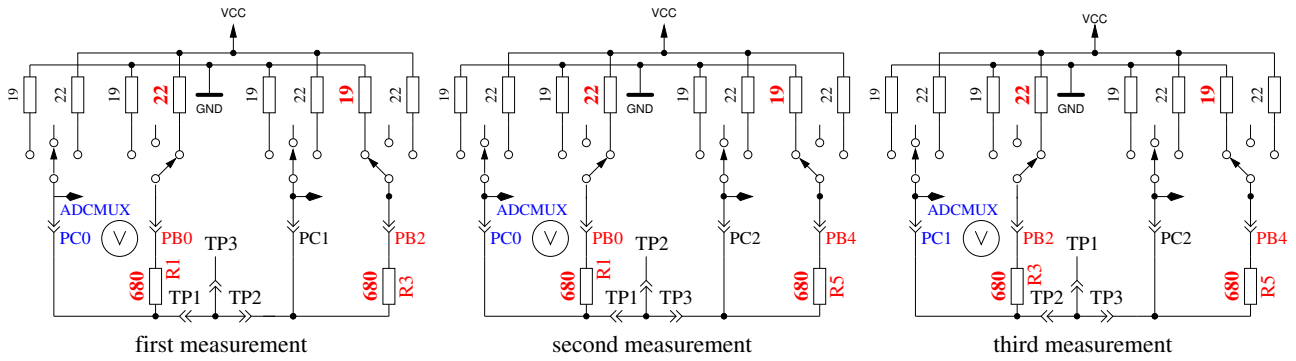

Figure 5.61. Comparison of 680Ω resistors
2. **Comparing of the  $680\Omega$  resistors.** In row 1 the cryptic text "+RL- 12 13 23" is shown. Meaning of this is as follows: The RL is the short form of Resistor Low meaning the  $680\Omega$  resistors. The 12 stand for: resistor at pin 1 is connected to VCC (+) and resistor at pin 2 is connected to GND (-). The result of this measurement is displayed in row 2 at the first place as difference to the theoretical value. In row 1 follows now a "13" which means, that the first connection of measurement 1 is still connected with  $680\Omega$  to VCC but that the resistor of pin 3 is connected to GND. The result is displayed in the middle place of row 2 as difference to the theoretical value. The last measurement of this test "23." means that now the resistor at pin 2 is connected to VCC (+) and the resistor of pin 3 is connected to GND. The result of measurement is displayed at the last place of LCR row 2 as difference to the theoretical value. Please remember, that the resolution of the ADC is about 4.88mV! The measurement situation is also shown in figure 5.61. The theoretical value with respect to the internal resistance of the pins should be:  $\frac{5001 \cdot (19+680)}{(19+680+680+22)} = 2493$ .